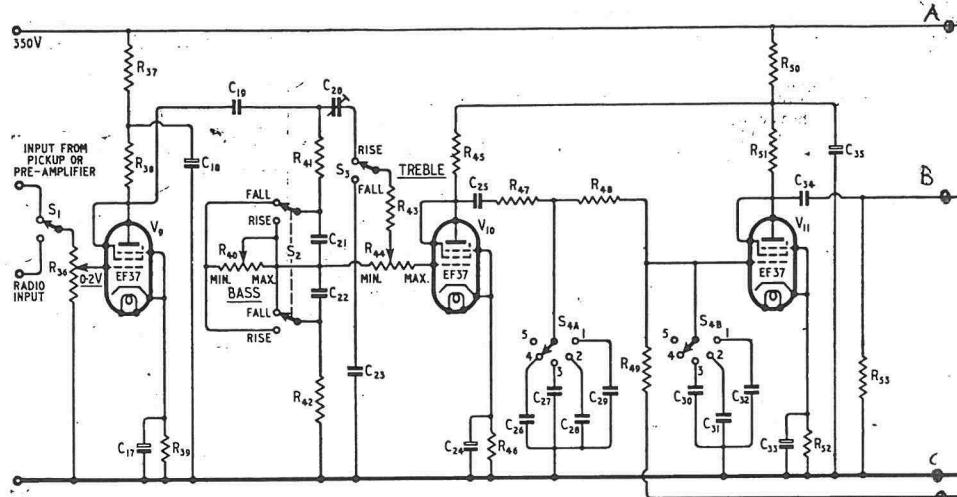

Fig. 19. Complete tone compensation and filter unit. The input and output voltages underlined are peak values for full output from the main amplifier.
**Gain.**—The figures underlined in Fig. 19 are the peak signal voltages necessary to give maximum output at 1,000 c/s when the pre-amplifier is used in conjunction with the High Quality Amplifier.
List of Components for Fig. 19.